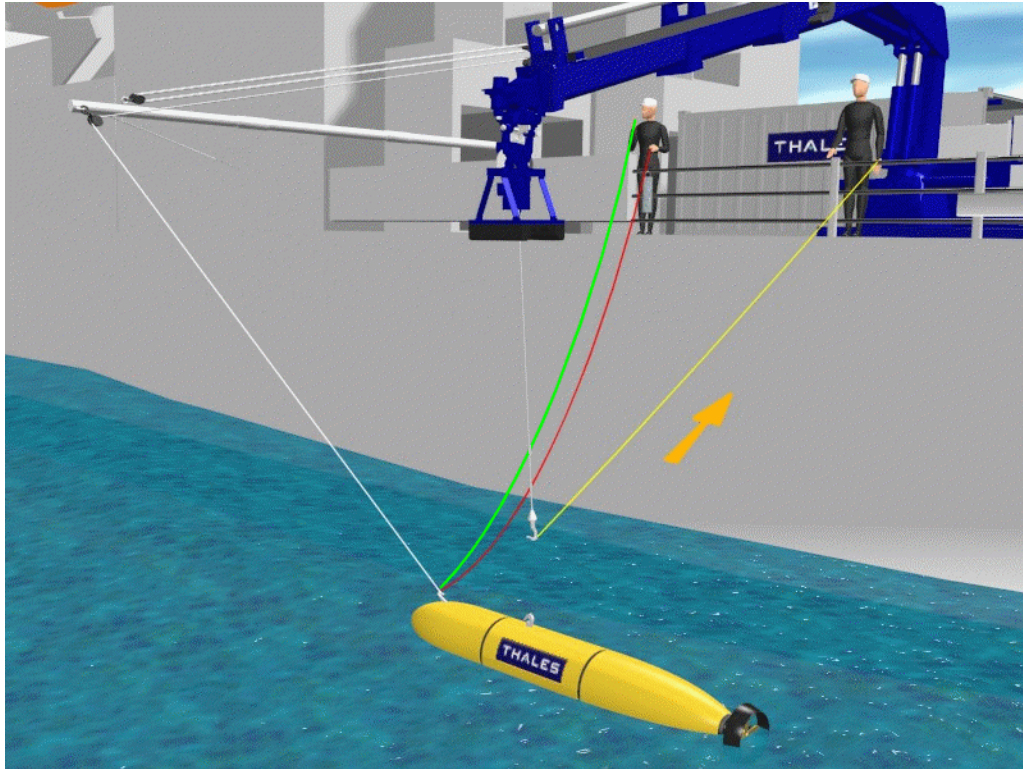

Figure 4-08
25. As soon as the AUV is waterborne and tension comes off the CT winch cable, release the crane hook from the AUV lifting hook by pulling on the guide line (Figure 4-08). **Note: Do not use CT mode when launching AUV.**